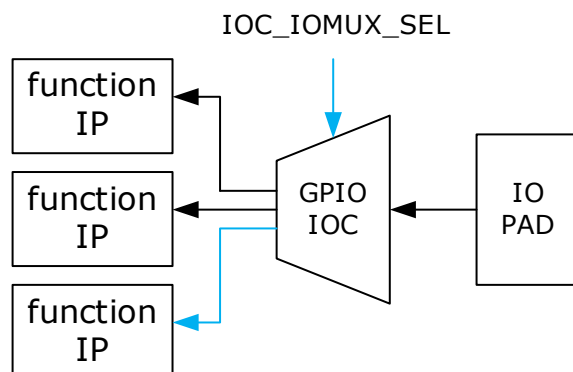

Figure 23-1 Connect directly from IOC to function IP
1) As shown in the Figure 23-1, the IO PAD connects directly to the function IP through IOC, and IOC_IOMUX_SEL controls which IP the signal is input to.